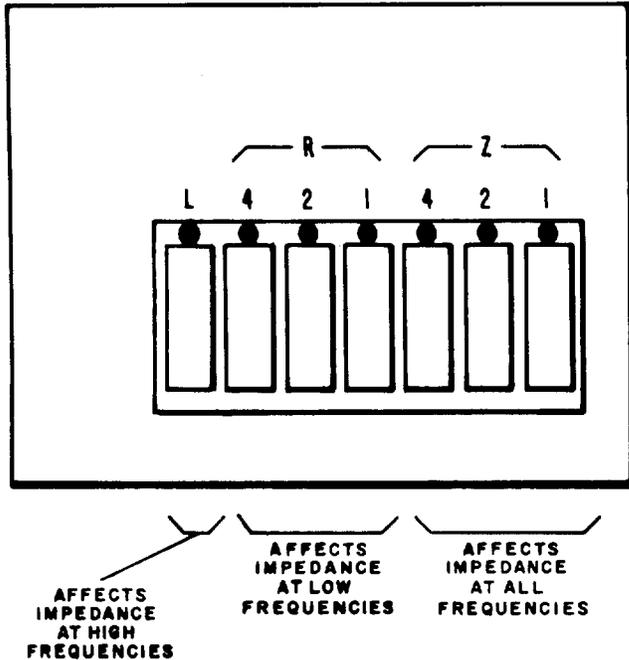

Fig. 5—Precision Balancing Network Switch Functions J99343PG, L1
2.11 The PBN controls for the J99343PG, L1, are illustrated in Fig. 5. This figure shows three groups of controls: R (4, 2, 1), Z (4, 2, 1) and the L switch. The L switch is used when the facility is 25-gauge MAT cable.